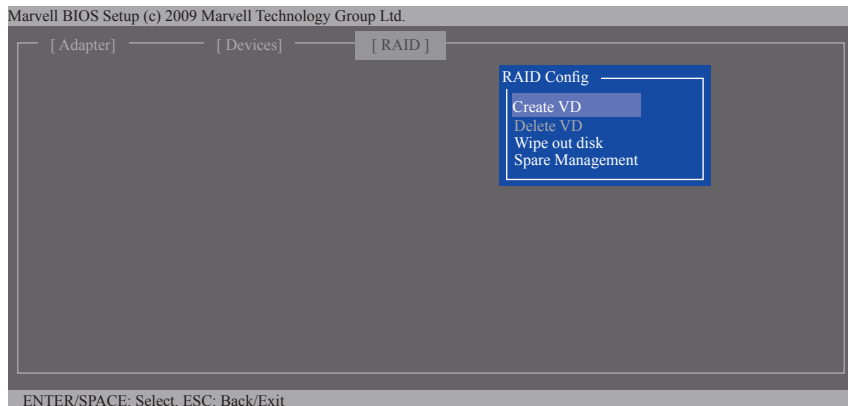

Figure 5
Step 1: On the main screen, press <Enter> on the RAID tab. Then the RAID Config menu appears (Figure 5). Press <Enter> on the Create VD item.